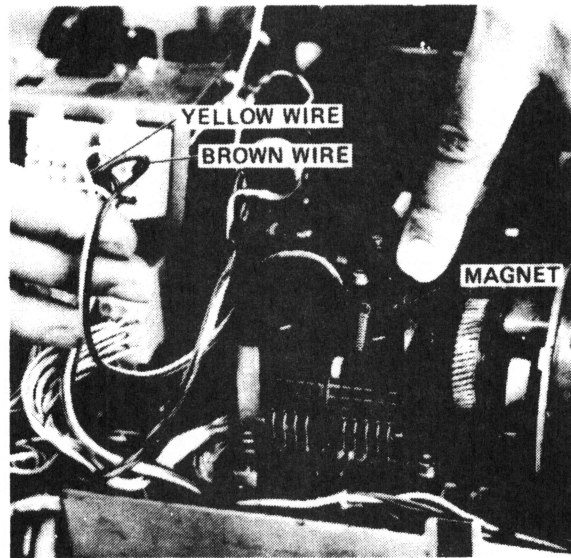

Figure A-7. Distributor Trip Magnet
- b. Disconnect brown wire shown in figure A-7 from plastic connector. Connect this brown wire to terminal I2 on mode switch. (Brown wire will have to be extended.)